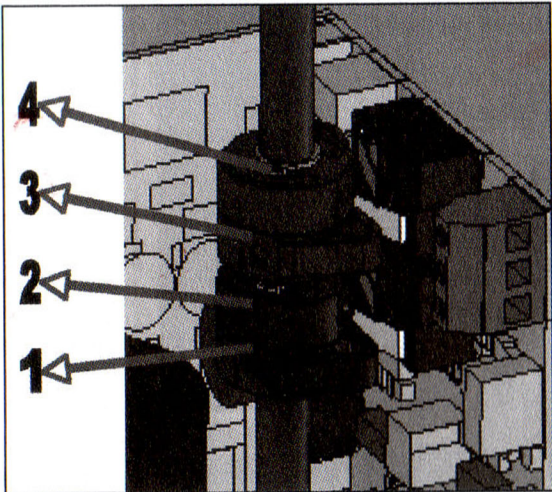

Fig. 6. cam of limit switches
4.6 Adjustment of actuator stroke (fig. 6)